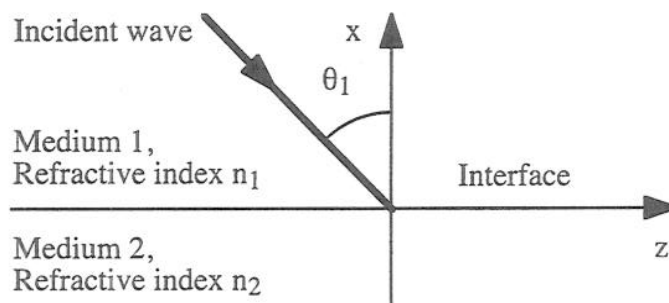

Figure 1.
2. Figure 1 below shows a plane wave incident on an interface between dielectric media.